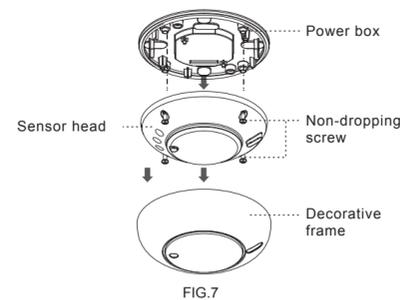

FIG.7
- Take off decorative frame of sensor, then take the sensor head apart from power box by unscrew its 4pcs non-dropping screws (See FIG.7).
- 4.4.1.4 Fix the sensor head on power box by inserting its four non-dropping screws into the corresponding screw holes, then cover up the decorative frame (See FIG.7).